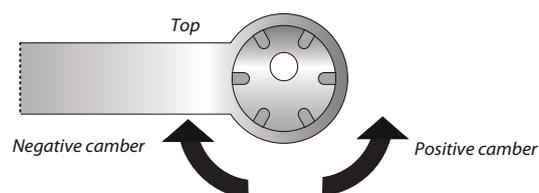

Figure 2: Inner Bush Orientation and Camber Adjustment
4. Using the supplied C45 spanner, twist the adjustable sleeve in the inner bush to the position shown in Figure 2, to aid fitting.
8. With the bolt for the inner bush still loose, adjust camber angle on the inner sleeve with the C45 spanner according to Figure 2.